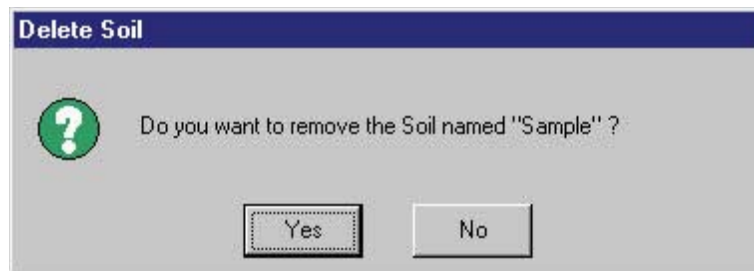

Figure 14.13
- c. A prompt box will appear requesting the user to verify the delete (Figure 14.13).